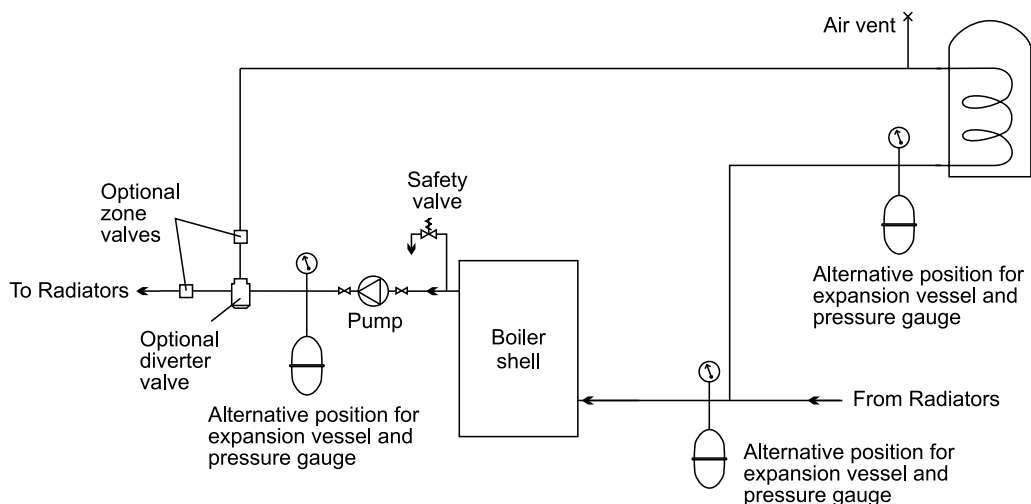

Fig. 10 - Sealed system
See Fig. 10
- 3 The expansion vessel can be fitted in either the return or flow pipework in any of the recommended positions as shown in Fig. 10. To reduce the operating temperature of the expansion vessel diaphragm, position it below the pipe to which it is connected. The expansion vessel may be positioned away from the system, providing the connecting pipe is not less than 13 mm diameter.